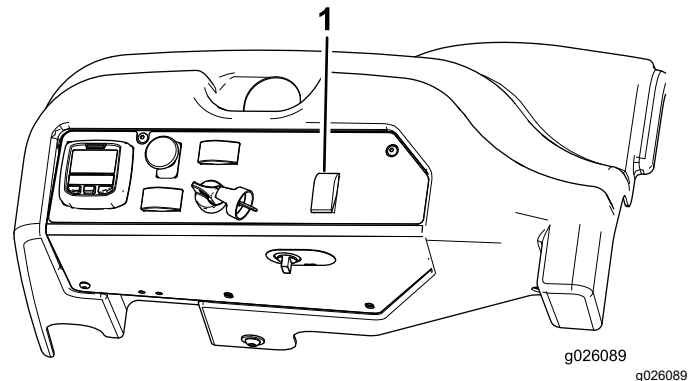

Figure 80
1. Press the steering-selector switch rearward 4-wheels steering position (Figure 80).